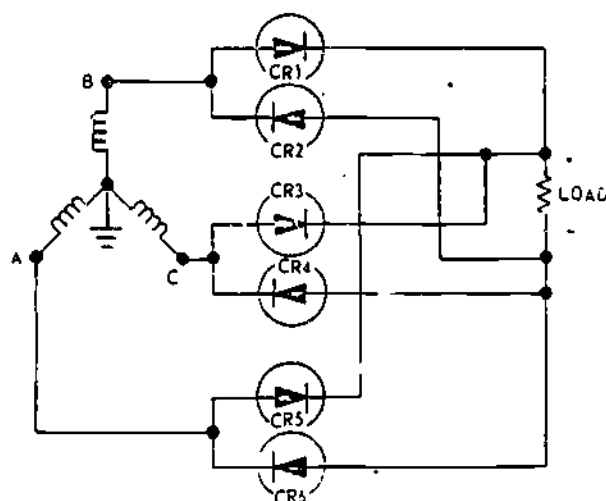

Figure 34-9. Three Phase Bridge Rectifier
14. Select the correct pair of diodes in figure 34-9 that will conduct when terminal A of the transformer is positive and terminal C is negative.
15. Select the correct output waveform from figure 34-10 for the three phase rectifier shown in figure 34-9.